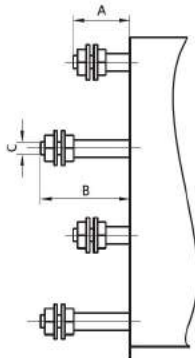

Fig8
Note: a) 1 for Install hole b) Terminal behind Bolt see Figure 8 and table 9
c. Terminals behind bolt see Fig8 and Table9